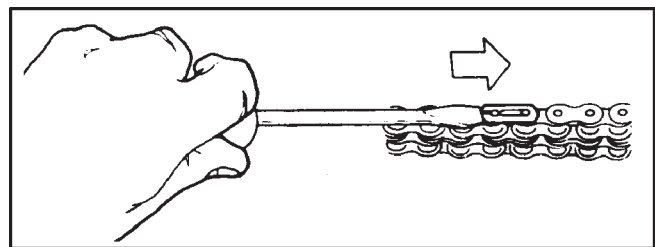
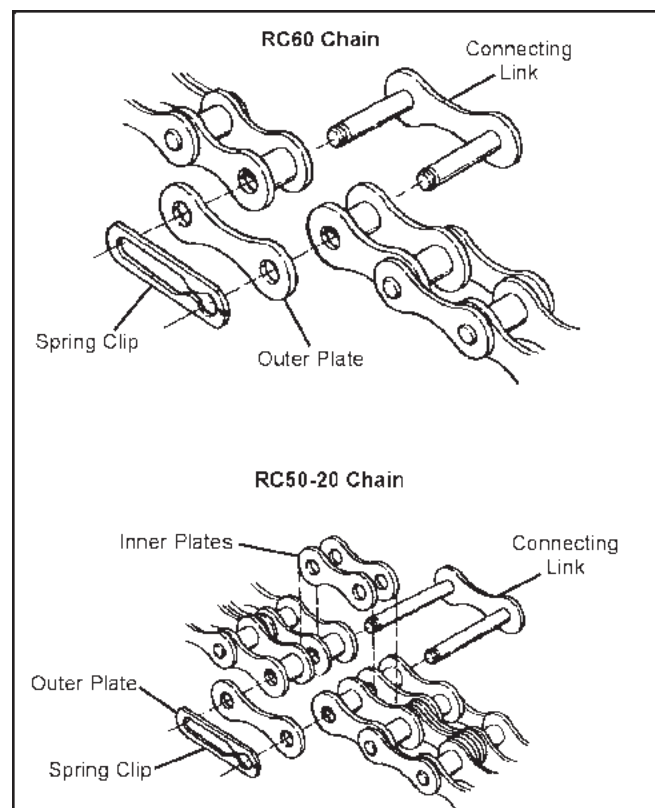

Figure 7-5. Removal of the spring clip
Figure 7-6. Chain connection link components.
5. Remove the spring clip from the connecting link as shown in Figure 7-5. Remove the outside plate and tap out the connecting link. The inside plates will be released when the connecting link is removed (Figure 7-6).
2. Pull the ends of the chain together and insert the connecting link as shown in Figure 7-6 and 7-7. When connecting the RC50-2 chain, insert the inside plates before tapping the connecting link into position.